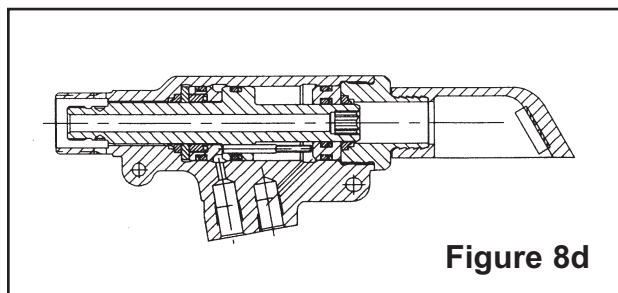

Figure 8d
6. Press wiper into groove of end cap. Thread end cap into cylinder and tighten. Install deflector - - *FIGURE 8d.*